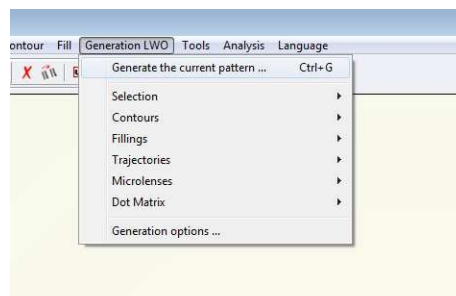

Fig 5 : Generation of the current pattern
- The “Generation LWO” menu is dedicated to the creation of lwo files. Click on **“Generation Lwo” > Generate the current pattern”** (Fig 5).